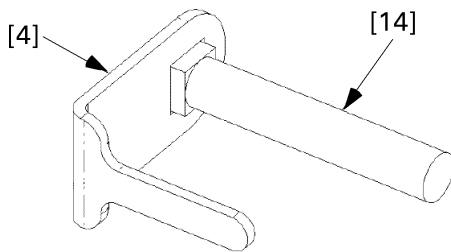
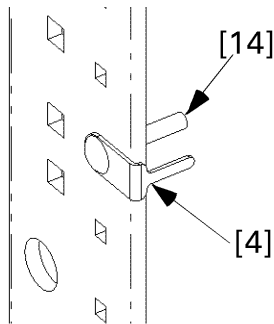

Figure 3. Assembling an antiturn clip [4] with a carriage bolt [14].
Figure 4. Installing a carriage bolt [14] and antiturn clip [4] into the interior.
3. **Assemble antiturn clips onto carriage bolts.** Slide an antiturn clip [4] over the square shank of each carriage bolt [14], as shown in Figure 3. Figure 4 illustrates the installation of a bolt and antiturn clip onto the interior, as called for in the remaining steps.